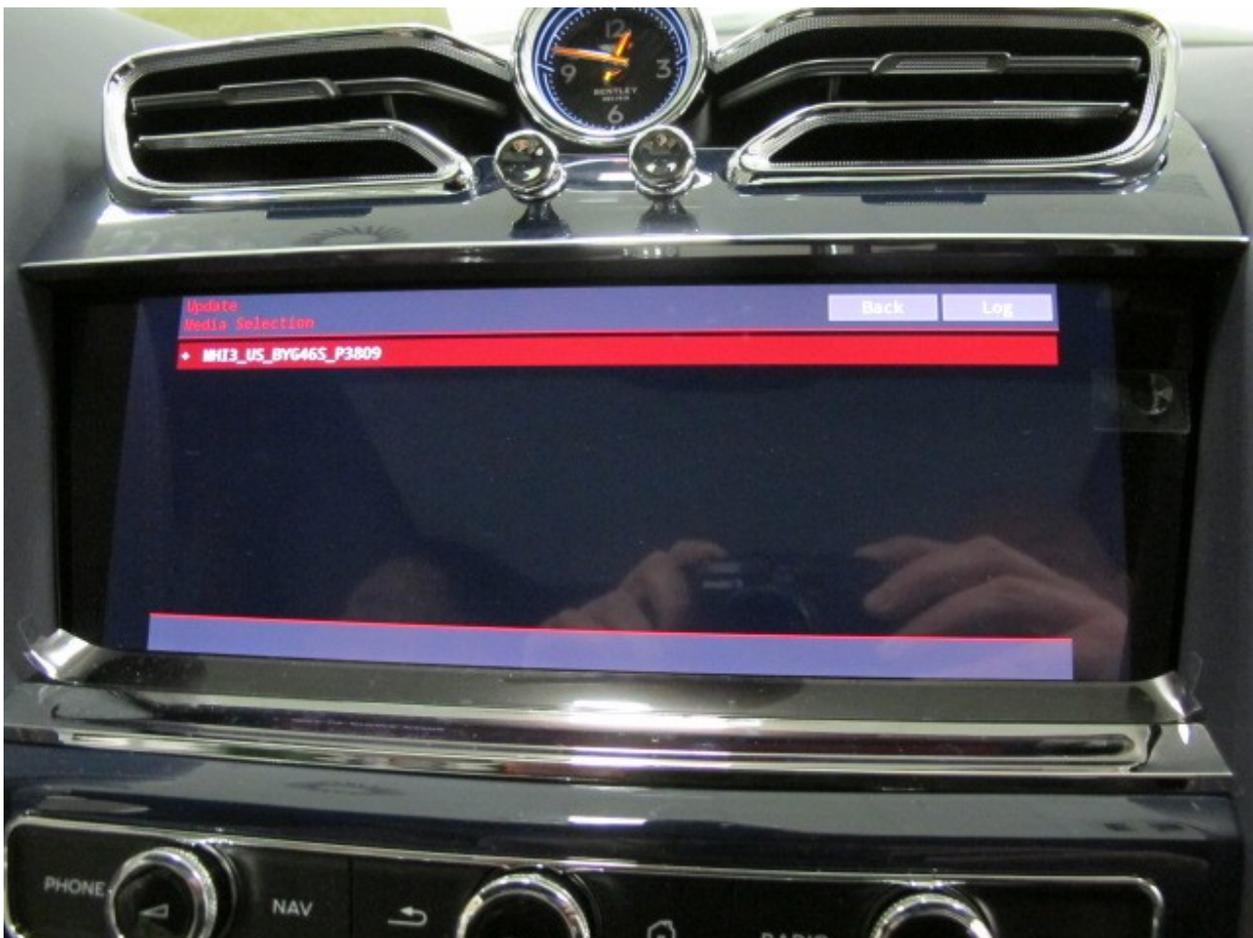

Figure 5
14. Select the suggested update. (Figure 5)